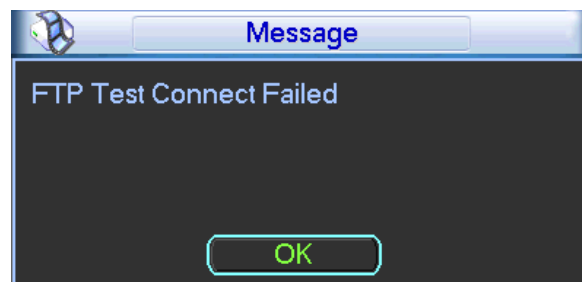

Figure 3-62
- Click the Test button, you can see the corresponding dialogue box to see the FTP connection is OK or not. See Figure 3-62.